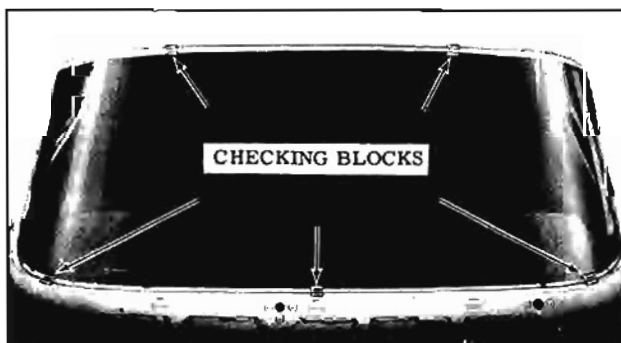

Fig. 16-7 Windshield Opening Check
4. Install Windshield Checking Blocks J-8942, (Fig. 16-7)